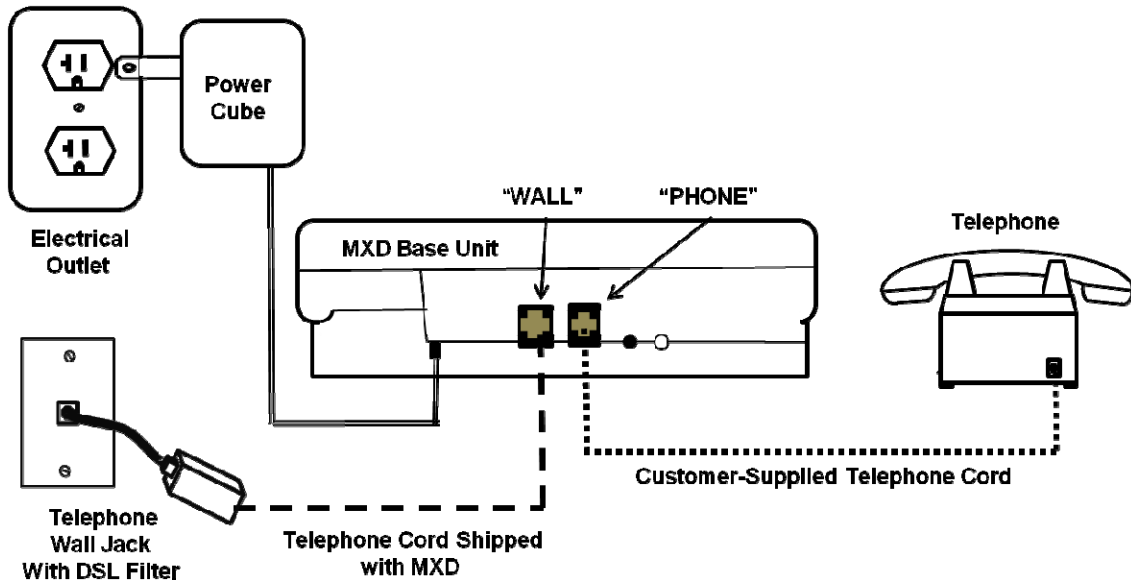

Figure 6. MXD Connections for Locations with a Self-Installed DSL Filter
1. **Configuration 1: Plug-in DSL filters, supplied by the DSL provider, are installed between telephone wall jacks and telephones in the home.** If Configuration 1 has been installed in your location, plug a DSL filter into the wall jack and then plug the MXD's telephone cord into the DSL filter. See Figure 6 below.